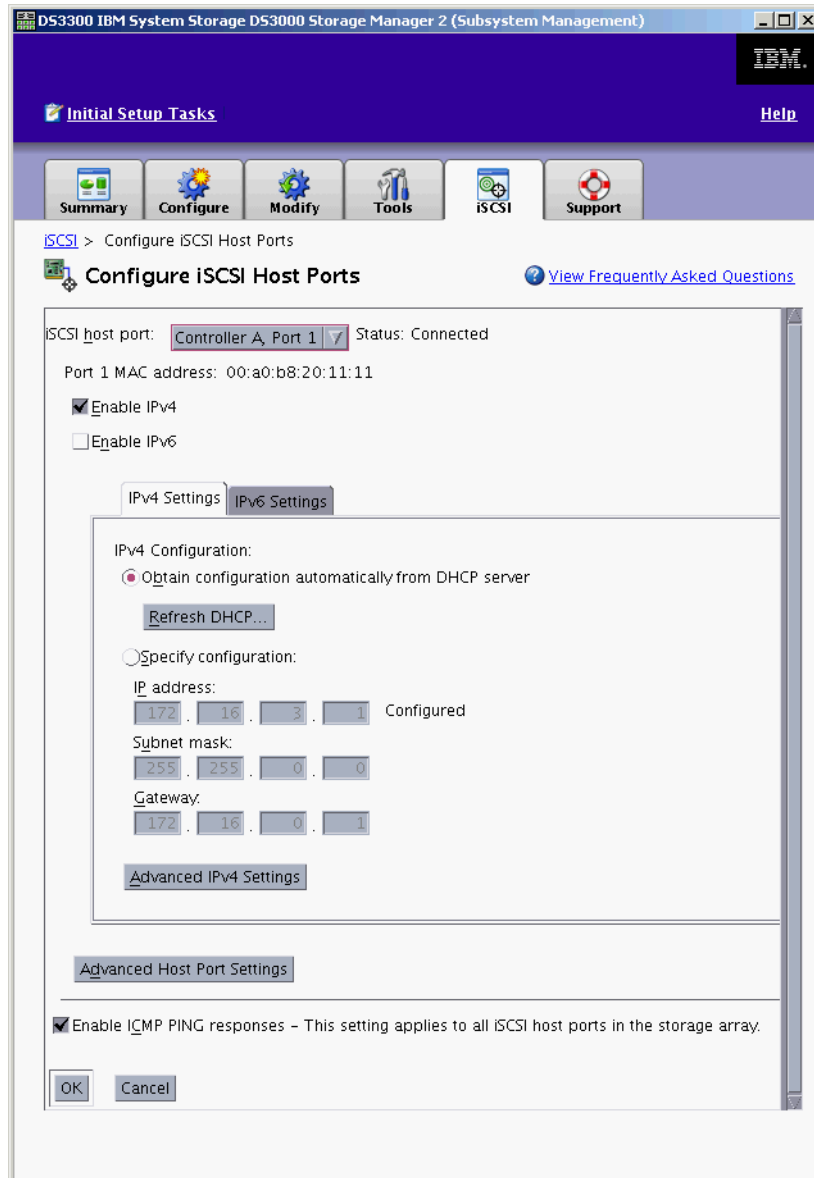

Figure 13-11 Configure iSCSI host port
1. Click **Configure iSCSI Host Ports** in the iSCSI tab. A window opens, as shown in Figure 13-11. Our example window shows an active IPv4 configuration that was assigned through DHCP.
6. After configuring IPv4, IPv6, or both settings, click **Advanced Host Port Settings** (shown in Figure 13-11 on page 292). These settings apply to both the IPv4 and IPv6 settings. The TCP listening port for iSCSI and jumbo frame support can be configured here. To use a TCP port other than 3260, check **Use custom listening port** and specify the port. A custom port can be between port 49152 and 65535.
7. In the Configure iSCSI Host Ports window (Figure 13-11 on page 292), you have the option to disable ping (ICMP echo) requests for all iSCSI host ports. Figure 13-16 shows this option selected. A reset of all ports is required to apply this setting.